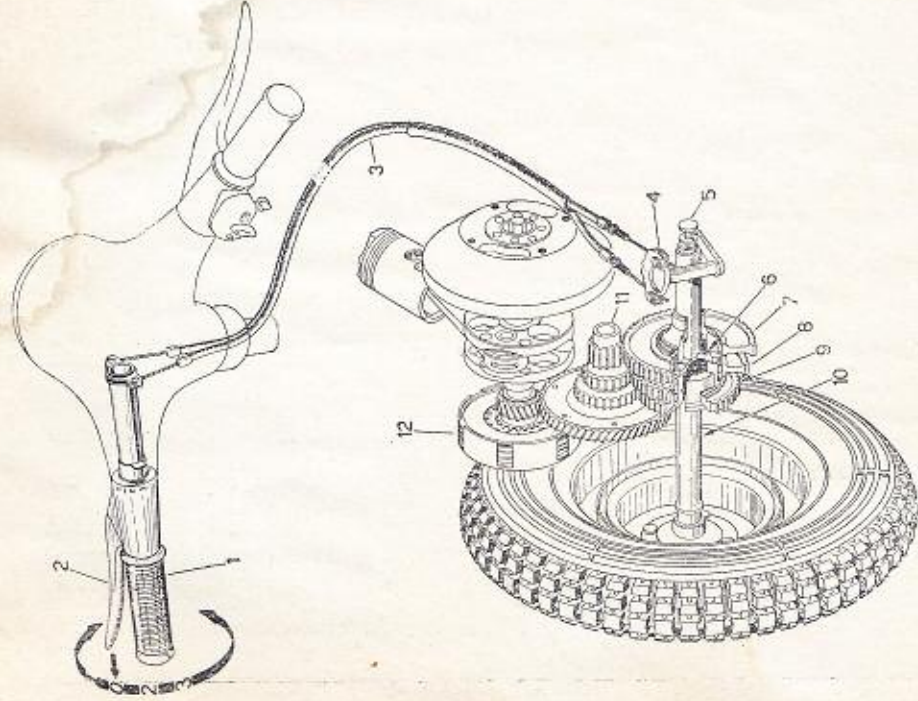

Fig. 13. Drive system.
Open the fuel tap, put the gear box in neutral (see "O", Fig. 13) and the throttle in slow running position, then depress the starting lever.
**Setting the machine in motion.** Let the engine idle, lift the clutch and turn the gear change twistgrip so that the figure "1" (1st gear) engraved on it coincides with the line engraved on handlebars (see Fig. 13). Now let in the clutch gently, while opening the throttle gradually to set the machine in motion.
Repeat this procedure for changing into 3rd gear and for changing down (see the drive system on Fig. 13).